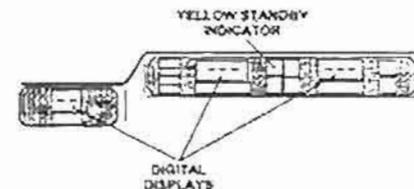

Figure 3-42. Standby mode.
(10) Continue to observe the control panel. The following control panel actions will automatically occur (fig 3-42).